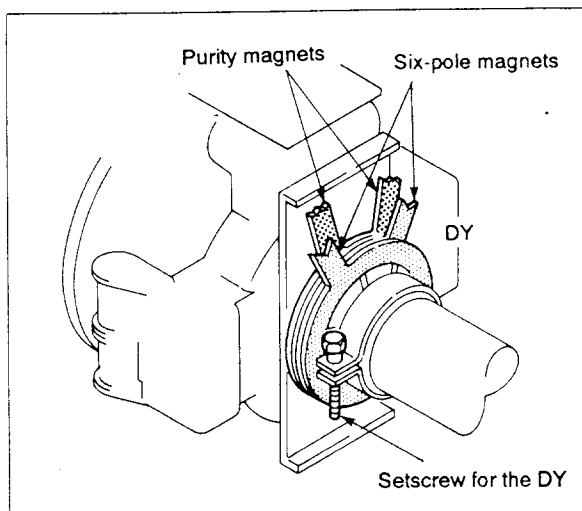

Fig. 6-3-6
- 2) Align the tabs for the six-pole magnet. (See Fig 6-3-6 and 6-3-7.)